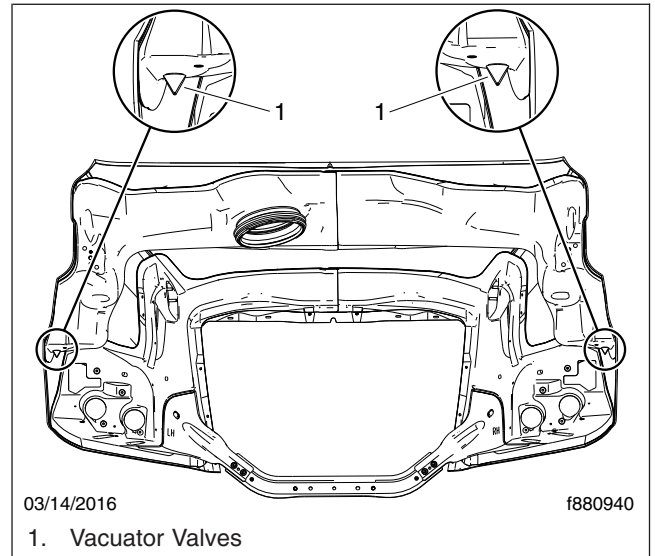

Fig. 25.11, Hood Vacuator Valves (hood interior shown)
- 3.1 Inspect the vacuator valve(s) installed on the hood interior and air cleaner. Make sure the lips of each valve are undamaged and pliable, free of debris, and remain closed during inspection. See Fig. 25.11.